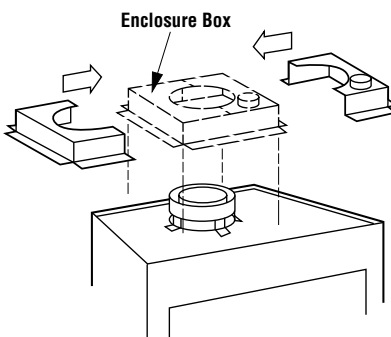

Figure 19
Step 6. Attach the cold climate kit, Model FTF10-CKK1-LD, around the chimney collar with the screws provided (*Figure 19*).